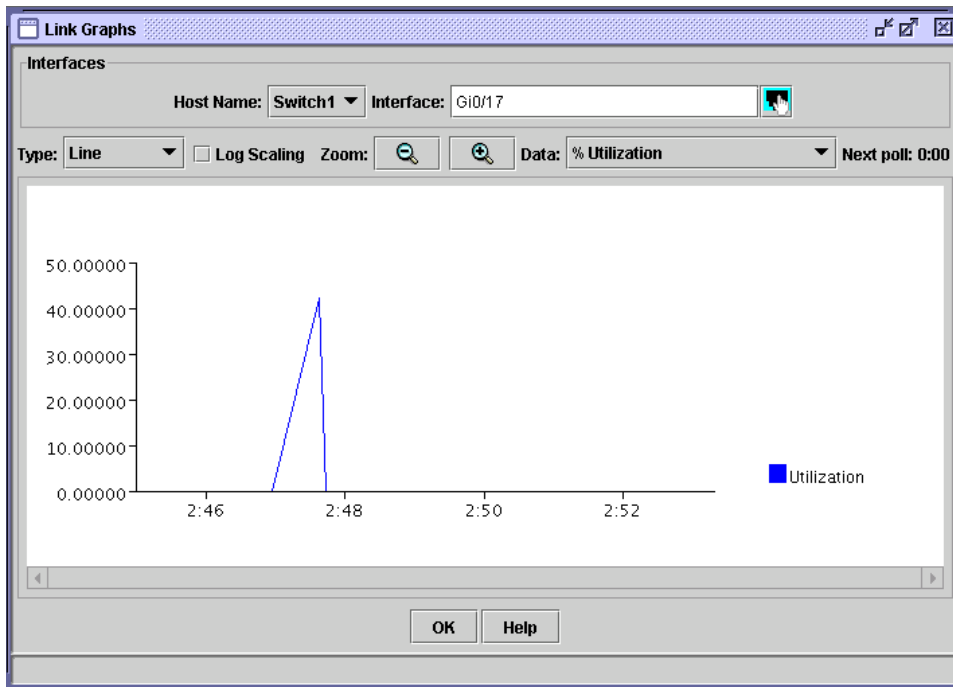

Figure 5-23 Port pop-up menu: Link Graphs
- ▶ Link Graphs (Figure 5-23 on page 38)